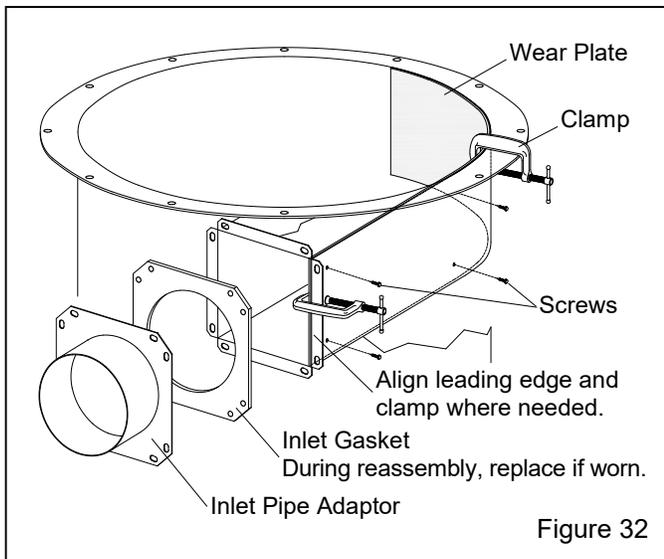

Figure 32
7.11 Replacing Reclaimer Wear Plate – Figure 32 Reclaimer with bolt-on, removable top